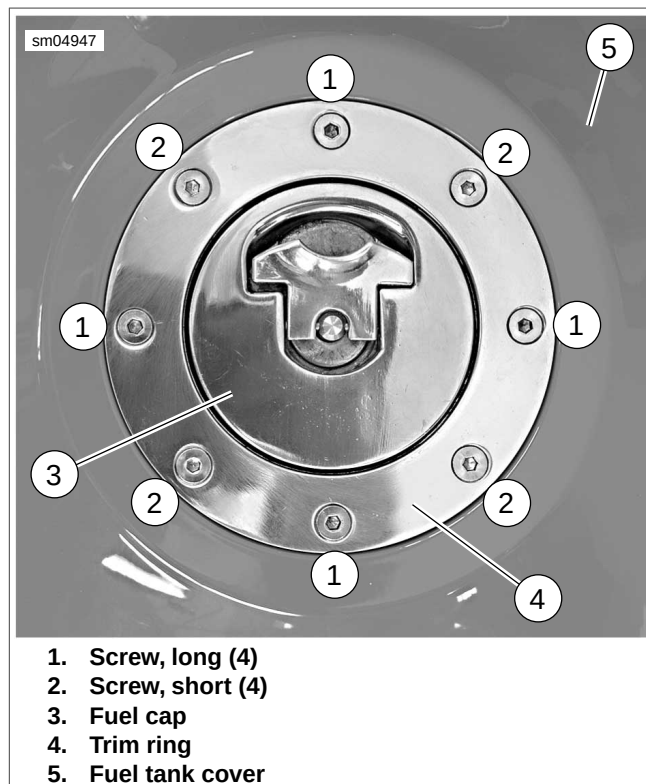

Figure 4-21. Fuel Cap and Trim Ring
See Figure 4-21. Short screws (2) secure trim ring to fuel tank cover only. It is not necessary to remove these screws unless either trim ring or fuel tank cover is being replaced.
5. See Figure 4-21. Remove four long screws (1) that secure trim ring (4) and fuel tank cover (5) to fuel tank.
- See Figure 4-21. Install fuel tank cover and secure with four screws (1). Tighten screws to 24-30 **in-lbs** (2.7-3.4 Nm).